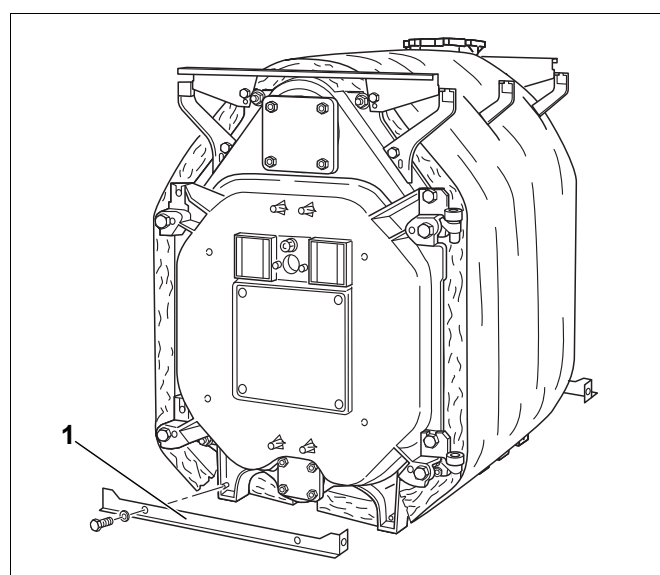

Fig. 43 Installing the lower cross tie-bars
- Secure the cross tie-bars at the lower front (Fig. 43, [1]) with two hexagon screws each on the respective boiler section feet. The edges of these tie-bars must point outwards.